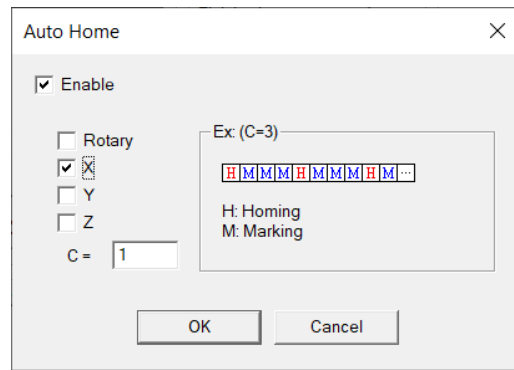

Fig. 1.6.04
**Auto Home:** Click this button and a dialog box will appear like Fig. 1.6.04. Check the "Enable" box to allow users to select the axis which is using and set "C" value. C means that the selected axis will do home automatically after marking specific times. Take C=3 for example, the system will do home at the beginning of marking and then after 3 times of marking, the system will do home again. If enable this function, then the figure